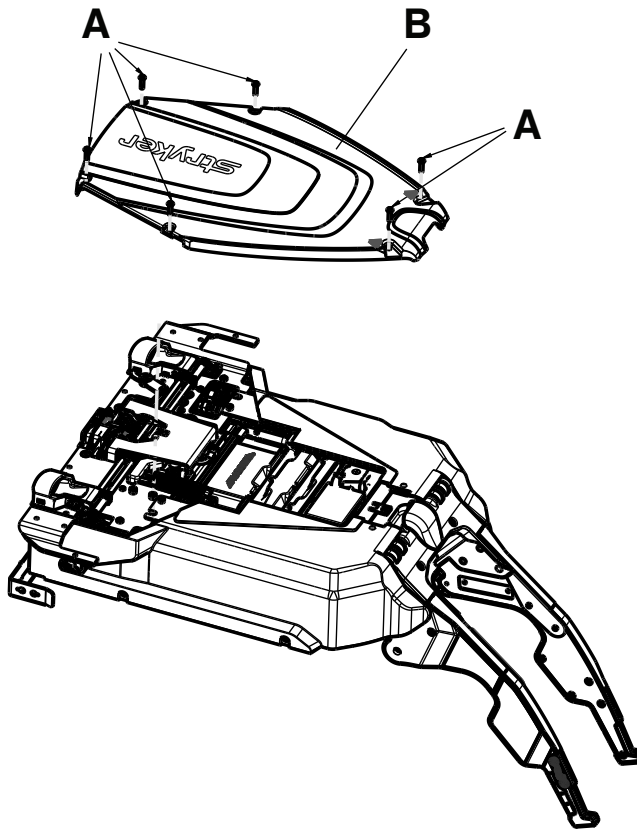

Figure 6 – Trolley top cover
1. Using a T25 Torx driver, remove the six screws (A) that secure the trolley top cover (B) (Figure 6).